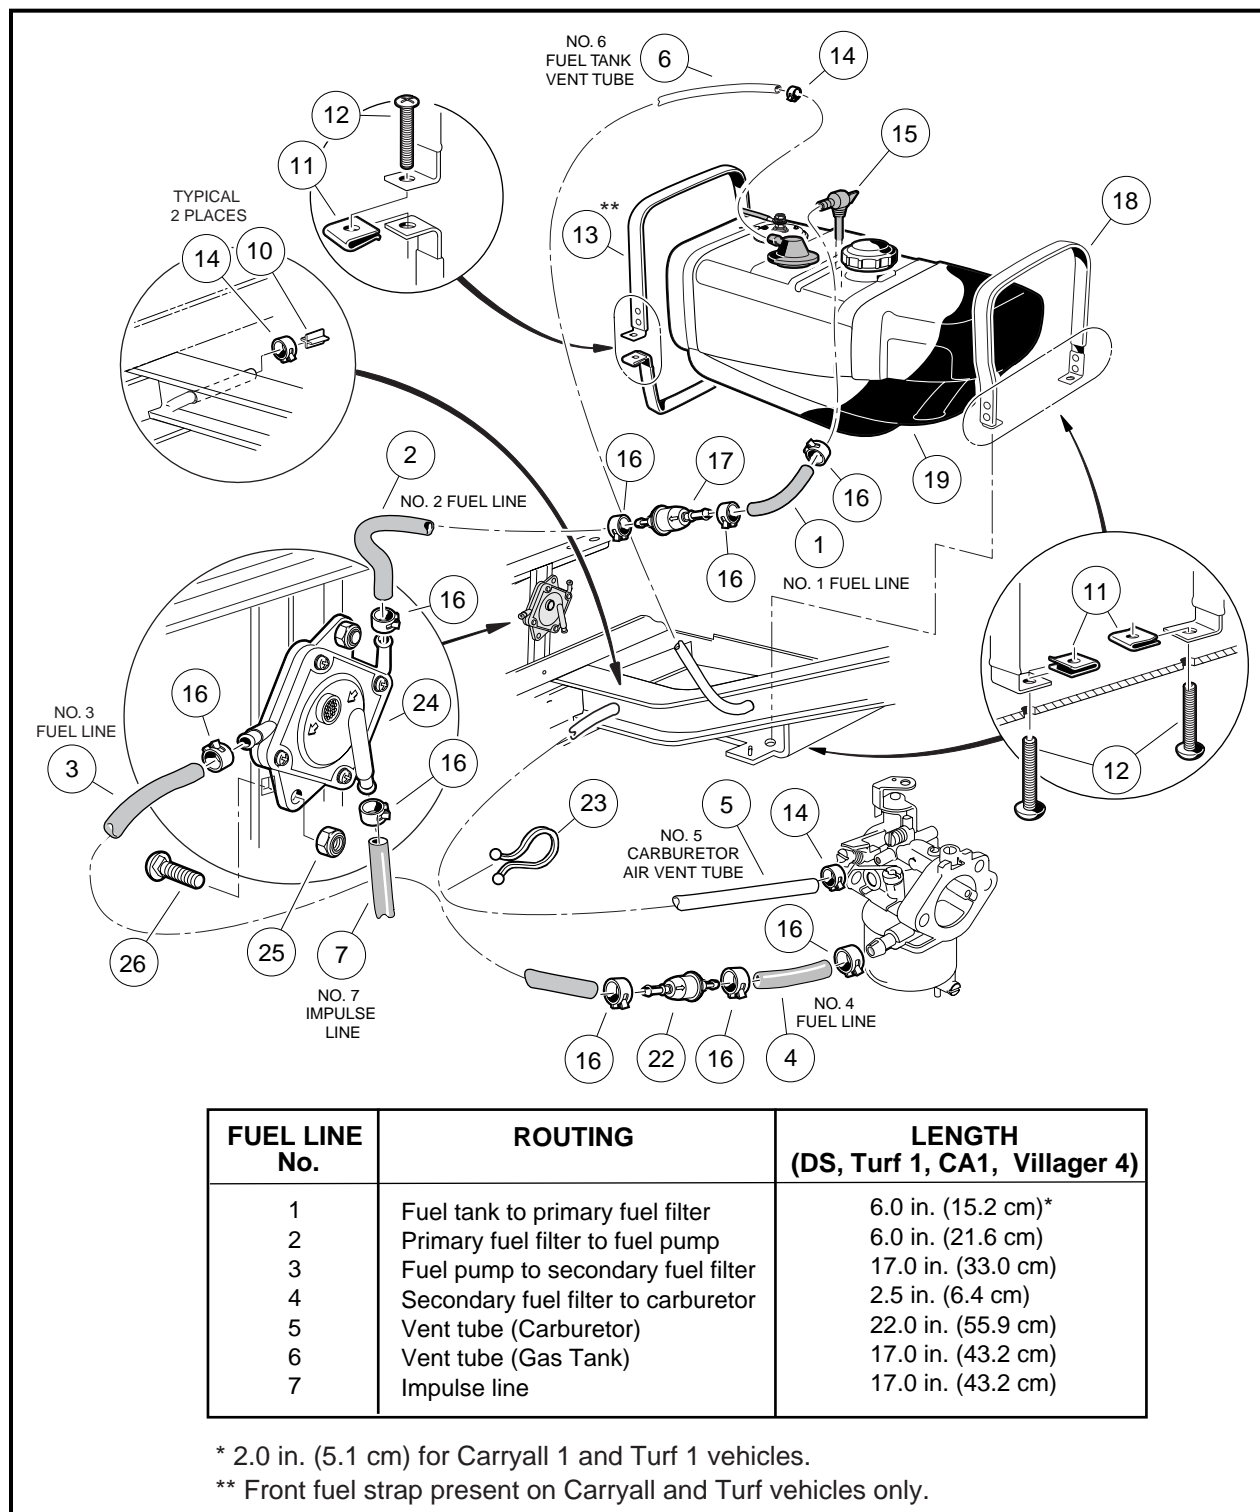
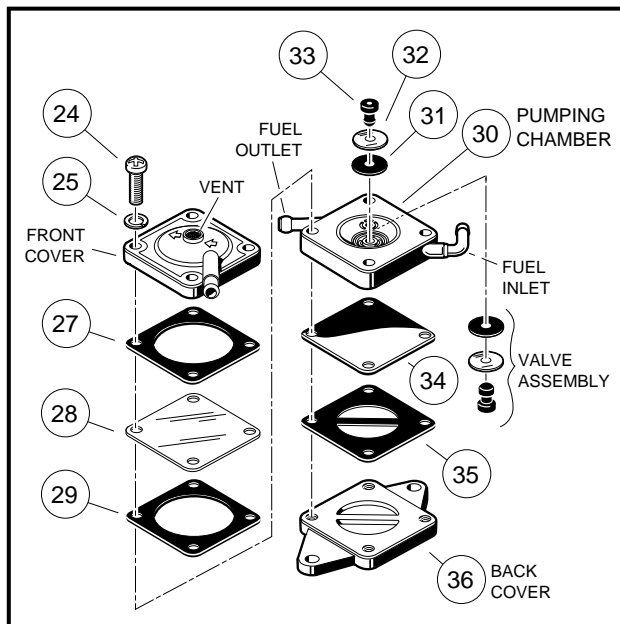
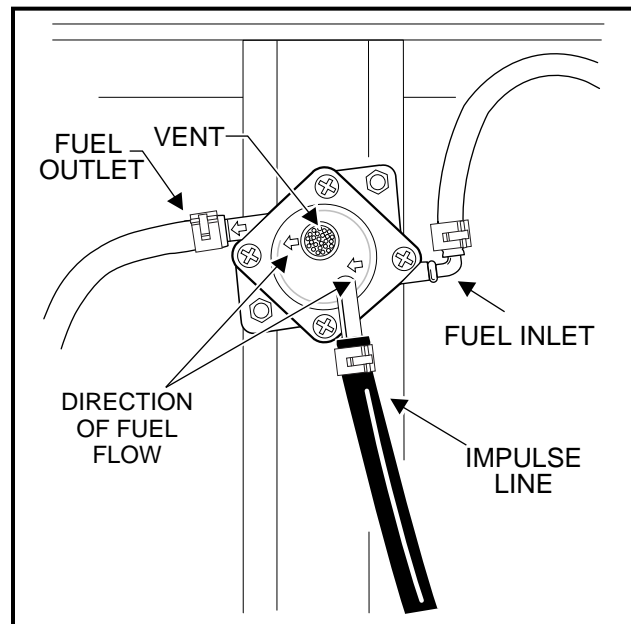

Figure 14-16 Fuel and Vent Lines
Figure 14-17 Fuel Pump
Figure 14-18 Fuel Pump Orientation
2. To prevent gasoline drainage, turn the fuel shut-off valve (15) on the gas tank (19) (**Figure 14-16, Page 14-19**) to the closed (OFF) position (**Figure 14-21, Page 14-26**).
3. Remove the primary fuel filter (17) (**Figure 14-16, Page 14-19**).
- 3.1. Remove the clamps (16) and fuel lines (1 and 2) from the filter and plug the fuel lines (**Figure 14-16, Page 14-19**).
4. Remove the secondary filter (22) (**Figure 14-16, Page 14-19**):
- 4.1. Remove the clamps (16) and fuel lines (3 and 4) from the filter and plug the fuel lines (3 and 4) (**Figure 14-16, Page 14-19**).
1. Install the primary fuel filter (17) in the fuel line. Use new clamps (16) (Figure 14-16, Page 14-19).
2. Install the secondary fuel filter (22) in the fuel line. Use new clamps (16).
2. Remove hardware attaching the fuel pump (24) and lift the fuel pump out of the engine compartment (**Figure 14-16, Page 14-19**).
3. Remove the clamp and impulse line (7) from fuel pump.
1. Remove four screws (24) and lock washers (25) from front of the fuel pump (**Figure 14-17, Page 14-21**).
3. Note the orientations of the impulse gasket (27), the diaphragm (28), and the gasket (29), then remove them from the pump (**Figure 14-17, Page 14-21**).
- If the impulse gasket (27) and the diaphragm (28) come off with the front cover, note their orientations and remove them (**Figure 14-17, Page 14-21**).
- Remove the pumping chamber (30).
- Remove the back cover (36), the fuel diaphragm (34), and gasket (35) (**Figure 14-17, Page 14-21**).
- Using a nonflammable solvent, clean the front cover, pumping chamber, and back cover. Be sure the vent on the front cover is clean both inside and out (**Figure 14-17, Page 14-21**).
- If a valve assembly is damaged, the rubber retaining plug (33) and valve assembly must be replaced.
- Install the fuel gasket (35) and diaphragm (34) on the back cover (36) (**Figure 14-17, Page 14-21**).
- Install the valve assembly in the pumping chamber (30). (**Figure 14-17, Page 14-21**)
- IF THE VALVE ASSEMBLY IS NOT INSTALLED EXACTLY AS SHOWN (**FIGURE 14-17, PAGE 14-21**), THE IMPULSE FUEL PUMP WILL NOT OPERATE PROPERLY.
- Install the pumping chamber (30) on top of the fuel diaphragm (34). Be sure the fuel inlet and the fuel outlet align with the arrows on the front of the front cover (**Figure 14-17, Page 14-21**).
4. Install the gasket (29), clear impulse diaphragm (28), and the paper impulse gasket (27) to the pumping chamber (30).
5. Install the front cover and then the lock washers (25) and four screws (24) on the assembly (**Figure 14-17, Page 14-21**). Be sure the arrows on the front cover point from the fuel inlet to the fuel outlet (**Figure 14-18, Page 14-21**). Tighten the screws to 26 in-lb (3.0 N·m).
- BE SURE TO CONNECT THE FUEL LINE (2), THAT COMES FROM THE PRIMARY FUEL FILTER (17), TO THE INLET NIPPLE ON THE PUMP (**FIGURE 14-16, PAGE 14-19**). DIRECTION OF FUEL FLOW IS INDICATED BY THE ARROWS ON THE FUEL PUMP (**FIGURE 14-18, PAGE 14-21**).
1. Connect to the fuel pump the fuel line (2) that comes from the primary fuel filter (17). Install a new clamp (16) (**Figure 14-16, Page 14-19**). See **Page 14-19** for proper routing of fuel lines.
2. Connect to the output side of the fuel pump, the fuel line (3) that goes to the carburetor (**Figure 14-16, Page 14-19**).
3. Connect the impulse line (7) to the bottom nipple on the fuel pump. Use a new clamp.
- For DS or Villager 4 vehicles, install the fuel pump on the frame and tighten the mounting bolts (26) and locknuts (25) to 60 in-lb (6.8 N·m) (**Figure 14-16, Page 14-19**).
3. Disconnect the fuel tank vent tube (6) (**Figure 14-16, Page 14-19**) from the fuel tank vent nipple.
10. Remove vent tube (6) and fuel line (1) from the fuel tank (**Figure 14-16, Page 14-19**)
11. Loosen the straps (13 and 18) by removing the screws (12) from the speed nuts (11).